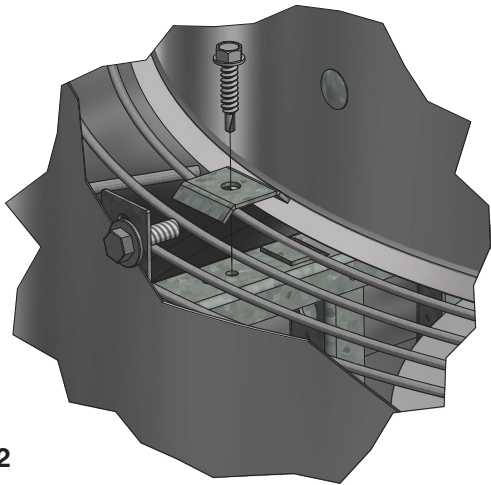
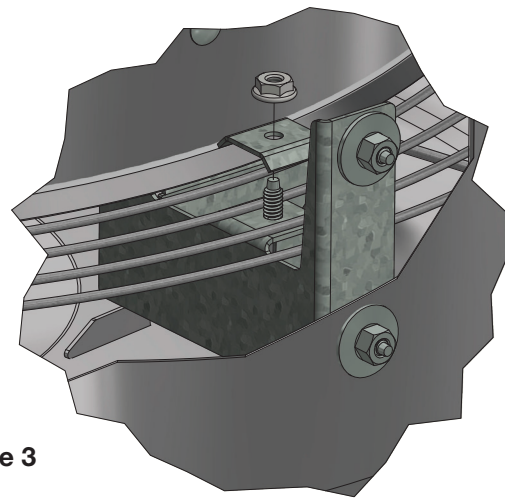

Figure 2
Figure 3
6. Secure birdscreen with birdscreen clip and either a #12 x 1 inch self-drilling fastener (See Figure 2) or 1/4 inch flanged nut (See Figure 3) at each horizontal support location. Clip should cover at least 2 radial wires within the birdscreen provided.